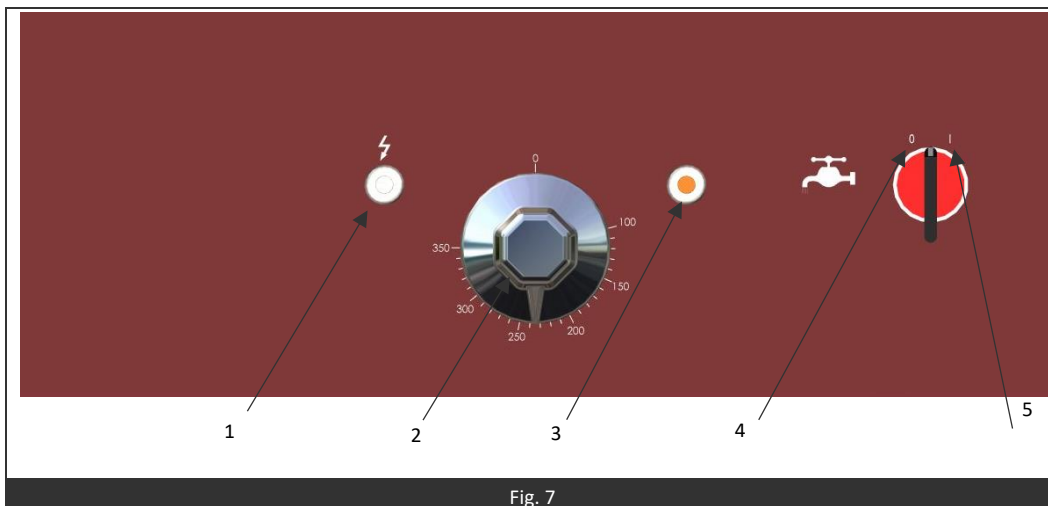

Fig. 7
- With the appliance switched on, the white light is on (Fig. 7 Item 1).
- Move the run-off switch to the On position (Fig. 7 Item 5) to circulate water through the groove around the edge.
- Adjust the temperature of the thermostat using the electric control knob (Fig. 7 Item 2).
- The amber light comes on to indicate that the heating elements are heating (Fig. 7 Item 3) and goes off when they have reached the desired temperatures.
- To stop the water run-off, turn the run-off switch to the Off position (Fig. 7 Item 4).